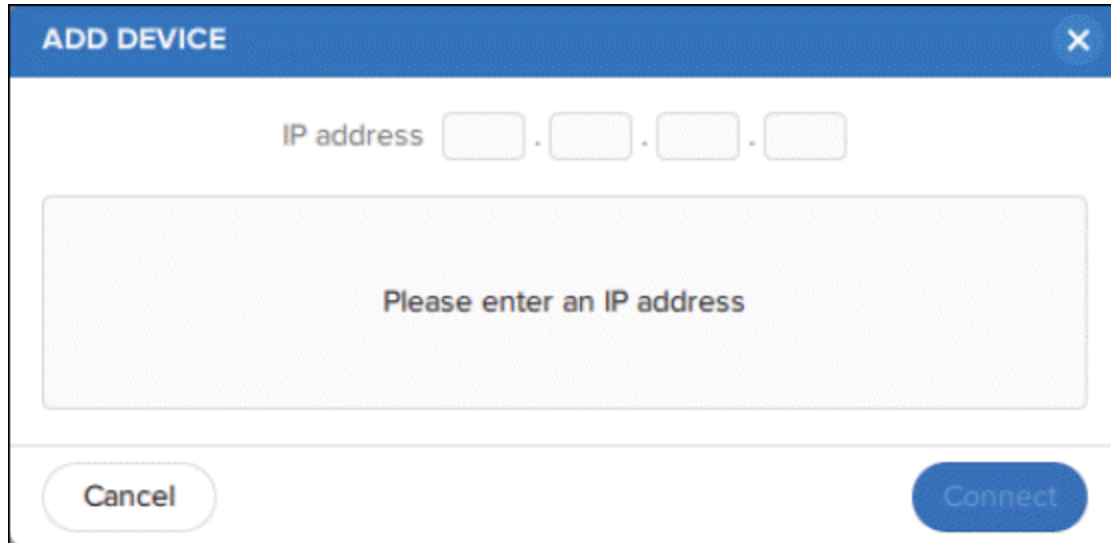

Figure-67. ADD DEVICE dialog box
- If you want to add a new printer in the list of **DEVICE LIST** dialog box, click on the **+Add** button from the dialog box. The **ADD DEVICE** dialog box will be displayed; refer to Figure-67. Specify the IP address of network printer in the **IP address** input boxes and click on the **Connect** button. The printer will be added in the list.